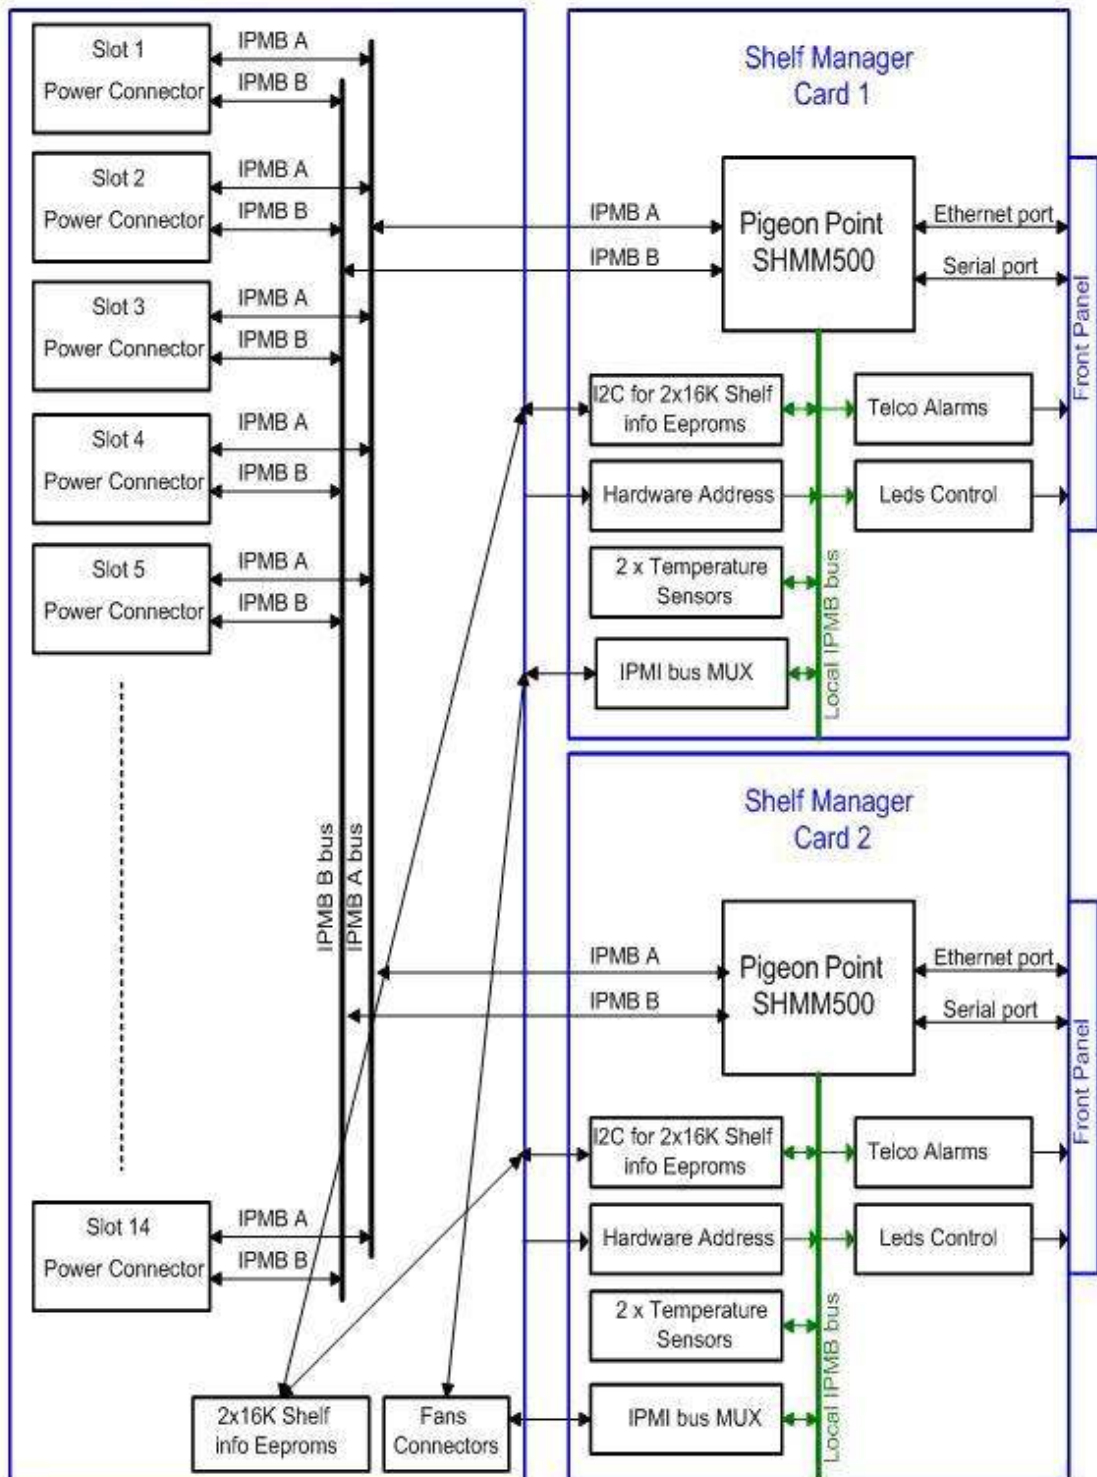
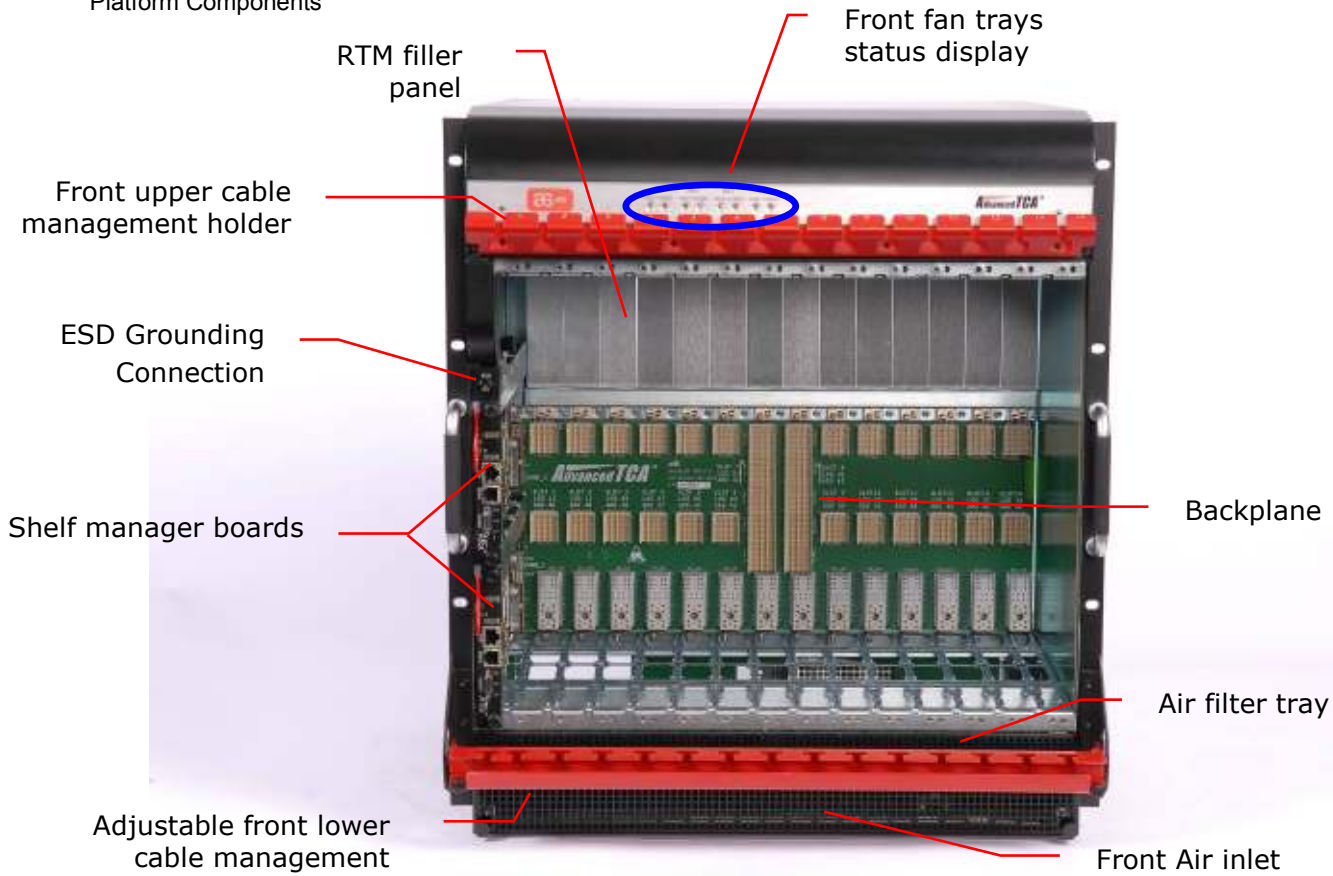

Figure 1 – IPMB interconnection Diagram
Figure 2 - Shelf Front View
*Figure 1* shows the block diagram of the shelf and *figures 2* and *3* show front and rear views of the shelf with key components highlighted.